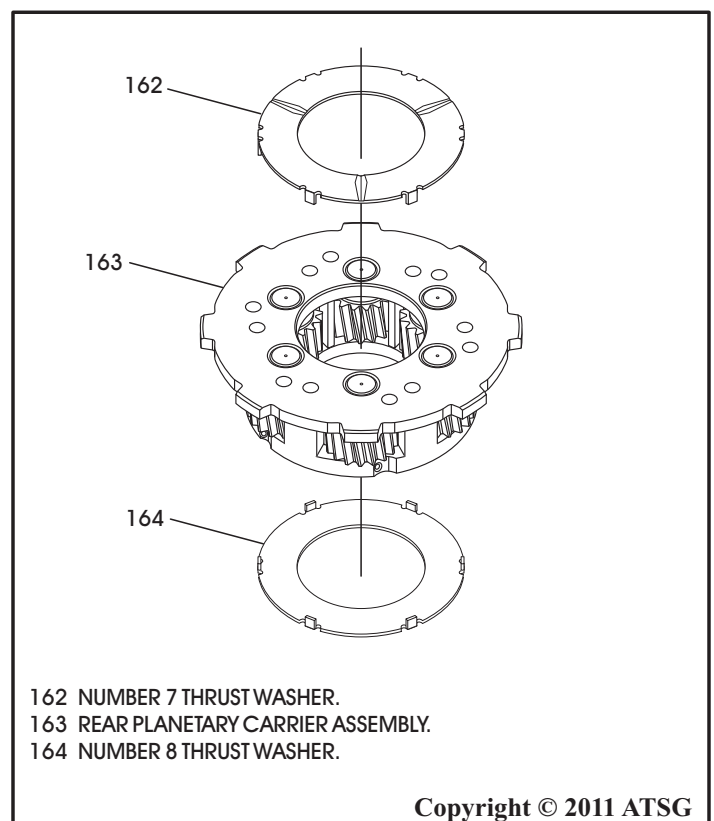

Figure 137
8. Install the number 7 thrust washer on front side of rear planetary carrier, as shown in Figure 137, and retain with Trans-Jel®.
9. Install the number 8 thrust washer on rear side of rear planetary carrier, as shown in Figure 137, and retain with Trans-Jel®.